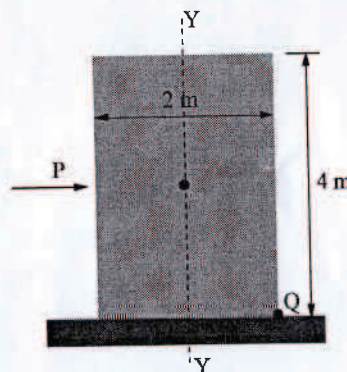

Fig. 3
- (c) A wardrobe (mass 100 kg, height 4 m, width 2 m, depth 1 m), symmetric about the Y-Y axis, stands on a rough level floor as shown in the Fig. 3. A force P is applied at mid-height on the wardrobe so as to tip it about point Q without slipping. What are the minimum values of the force (in newton) and the static coefficient of friction  $\mu$  between the floor and the wardrobe, respectively? (Marks: 3)